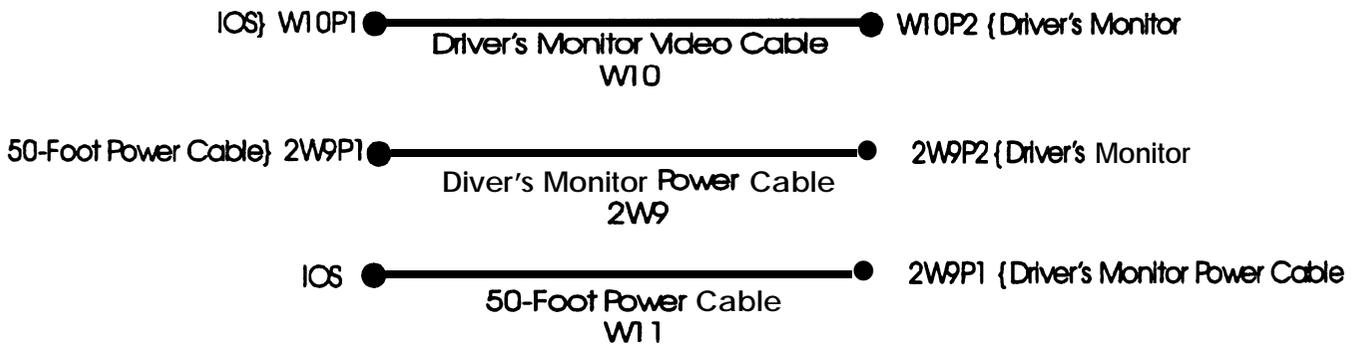
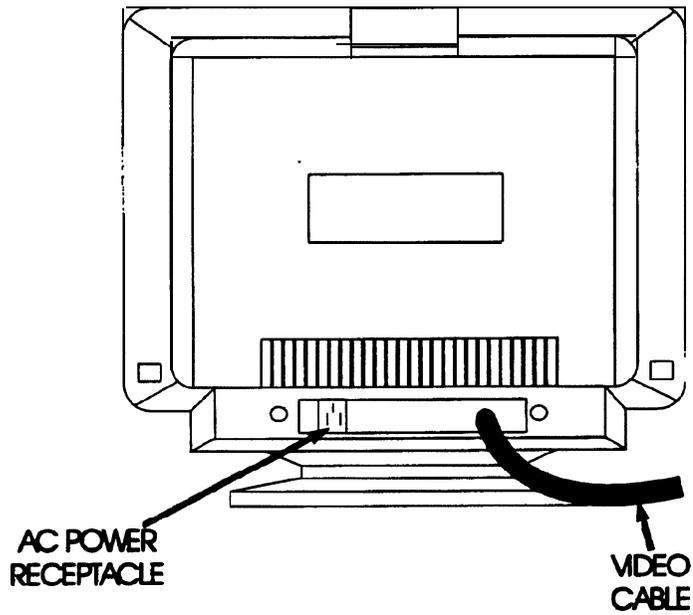

Figure 2-71. Driver's Monitor Wire Diagrams
Figure 2-72. Driver's 14-inch (MAG) Monitor Rear
g. Use Figure 2-71 as a guide to make the following monitor cable connections:
- (1) Connect video cable **W10** connector **W10P2** to the mini D-sub on the built-in video cable on the monitor's rear.
- (2) Connect ac power cable **2W9** connector **2W9P2** to the ac power receptacle on the monitor rear (see Figures 2-72, 2-72a and 2-72b) and to the blue SO-foot single-outlet power cable **W11** at connector **W11P2**.